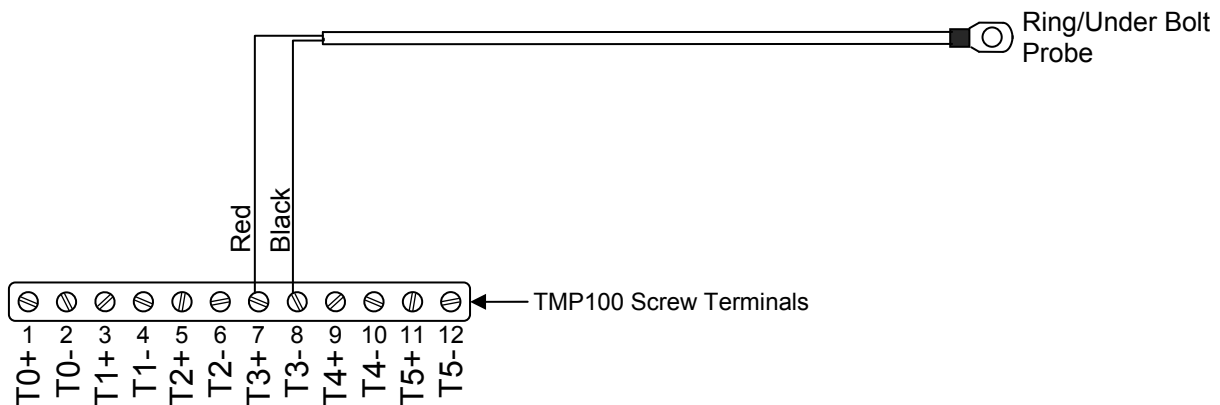

Figure 1 – Wiring Diagram
Please follow these instructions to connect the TR3K to the NMEA 2000® network via a Maretron TMP100 Temperature Module. The wiring diagram appears in Figure 1 below. The diagram shows a connection to channel #2, but connections to other channels are similar. Please note that the TR3K may be connected only to channels #2, #3, #4, and #5. It may not be connected to channels #0 and #1.
2. The TR3K cable contains one red and one black wire. Connect the black wire to the appropriate Tx- terminal on the TMP100 as shown in Figure 1 below.
3. Connect the red wire to the appropriate Tx+ terminal on the TMP100 as shown in Figure 1 below.
Please follow these instructions to connect the TR3K to the NMEA 2000® network via a Maretron DCM100 DC Monitor. The wiring diagram appears in Figure 1 below.
2. The TR3K cable contains one black and one red wire. Connect the red wire to the TA terminal on the TMP100 as shown in Figure 1 below.
3. Connect the black wire to the TB terminal on the DCM100 as shown in Figure 1 below.